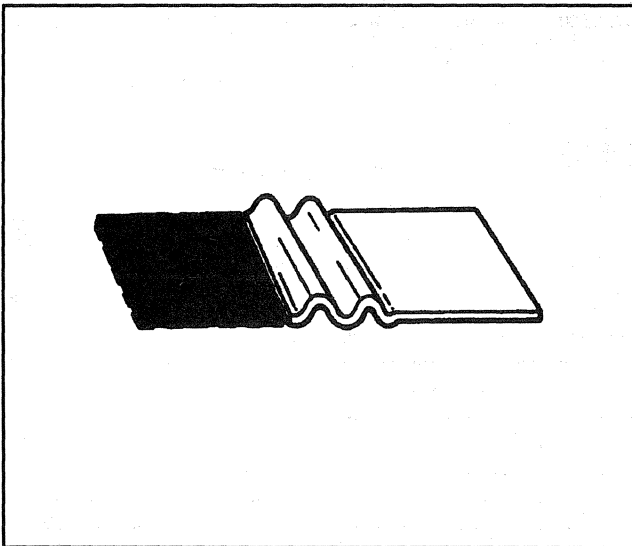

Figure 1—Collapse (Damage Condition)
4. **COLLAPSE** refers to the condition that occurs when buckles appear on more than one surface of the box section of the side rail, or when a section of the underbody or frame structure has been shortened in length (Figure 1).